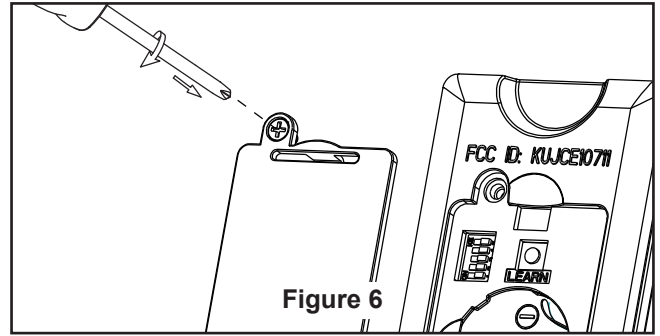

Figure 6
5. The receiver has a wifi antenna that can be used if you experience range issues. (Figure 6)
6. Secure the steel cap to light kit wire cover by twisting in a clockwise direction. Do not over-tighten. (Figure 6)
8. Replace battery cover on the remote control and secure with the previously removed screw. (Figure 6)